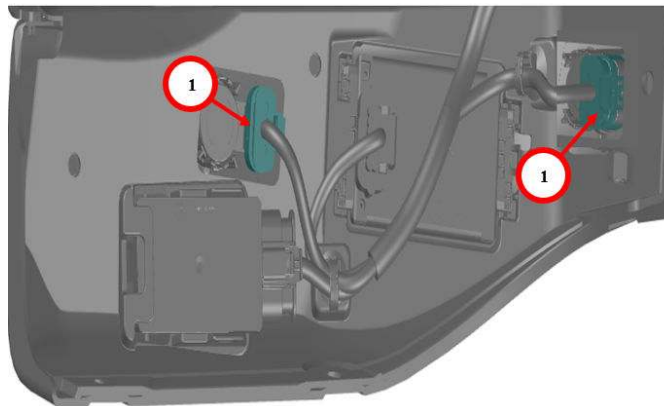

Fig. 5
6. Disconnect the Rear Park Assist (RPA) sensor wire harness connectors Fig. 5.
12. Connect the RAP sensor wire harness connectors Fig. 5.